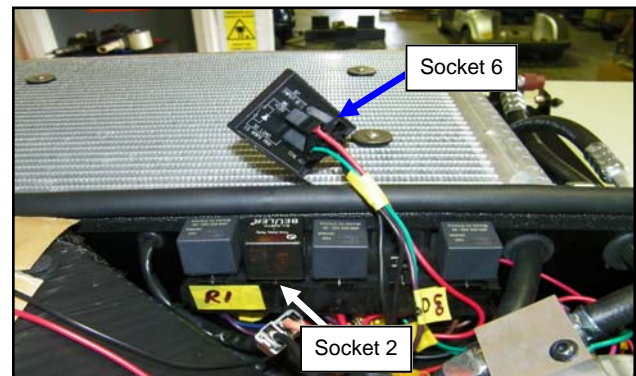
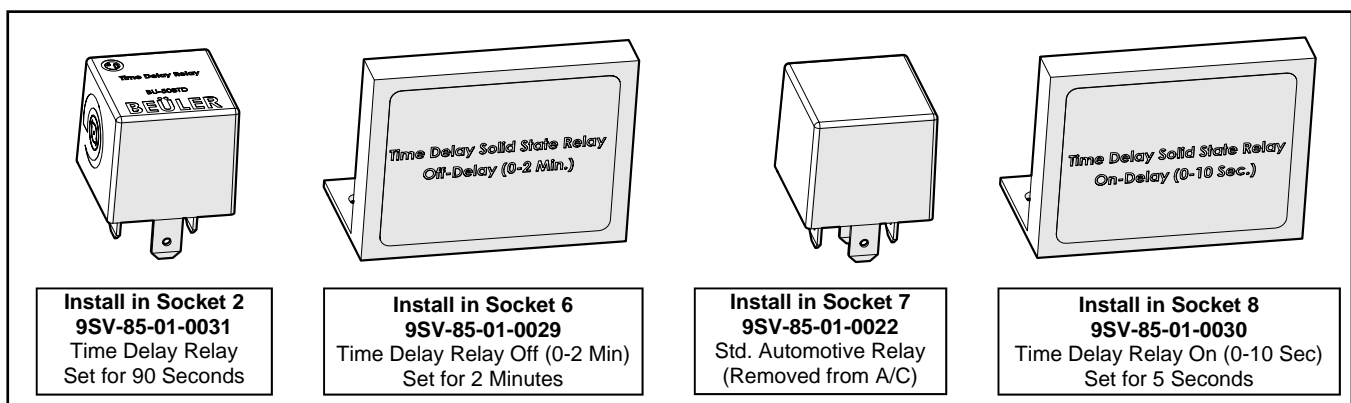

Fig. 3.6 (Install Timed Relays to Sockets 2 & 6)
Fig. 3.7b (Relay Guide)
- 3.6 Per Figure 3.6, install 2 relays into the A/C unit. See Relay Guide in Fig. 3.7b below for assistance identifying each relay.